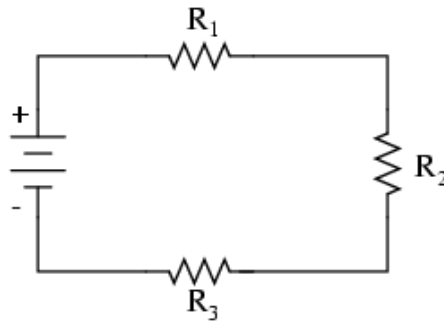

Figure 3.1: Series combination resistive circuit
- Write a BASIC program which calculate equivalent resistance (R_{eq}) of Series combination circuit shown in Figure 3.1.